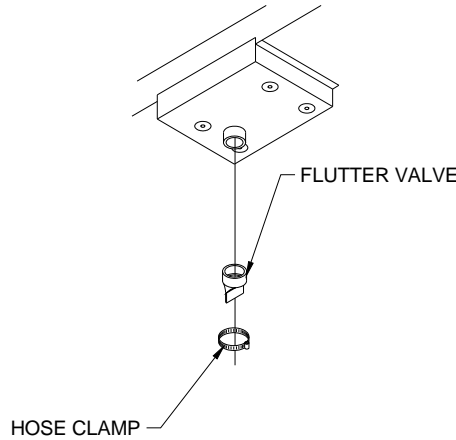

FIGURE 2-2: FLUTTER VALVE INSTALLATION
- b. Refer to **Figure 2-2**. Slide flutter valve onto holder.
- c. Refer to **Figure 2-2**. Place hose clamp over flutter valve and tighten to secure valve in place.